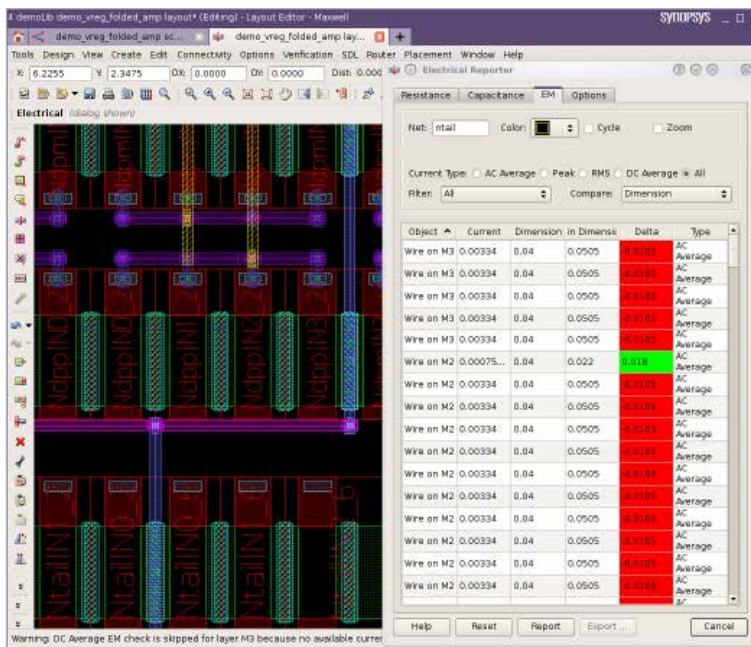

Figure 3: Electromigration checking
**In-Design Assistants** reduce costly design iterations by catching physical and electrical errors before signoff verification. Custom Compiler includes a built-in design rule checking (DRC) engine, which is extremely fast and can be active all the time. In addition to the DRC engine, electromigration checking (see Figure 3), and resistance and capacitance extraction are all natively implemented in Custom Compiler. Unlike other “electrically-aware” tools, Custom Compiler’s extraction is based on Synopsys’ gold-standard StarRC™ engine.